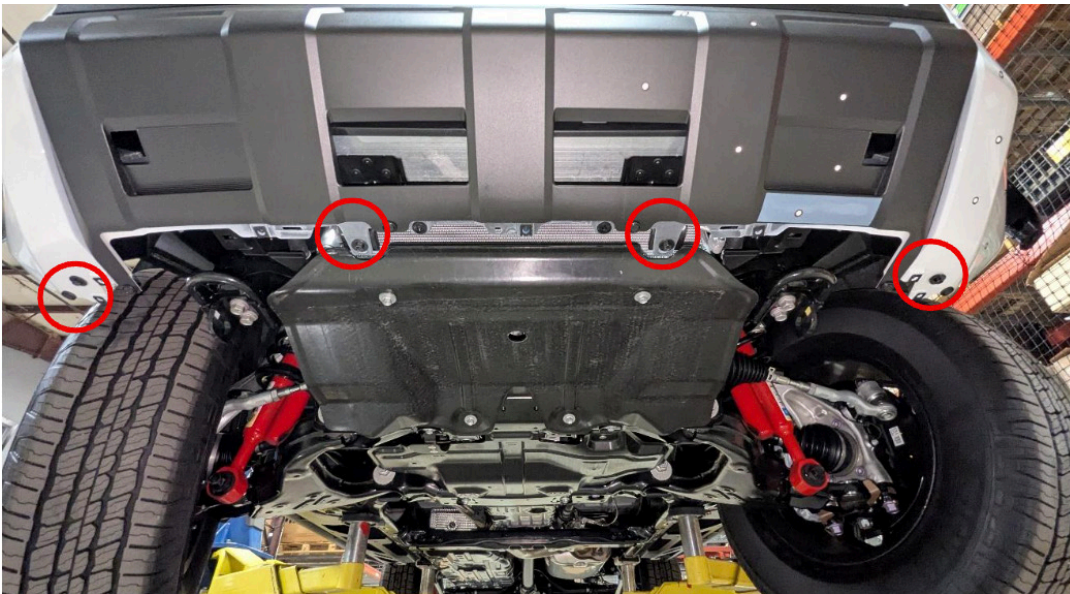

Figure 15
8. Using a 10mm socket wrench, remove the four (4) screws from the bottom of the fascia. Set these aside for reassembly later. (Figure 15)